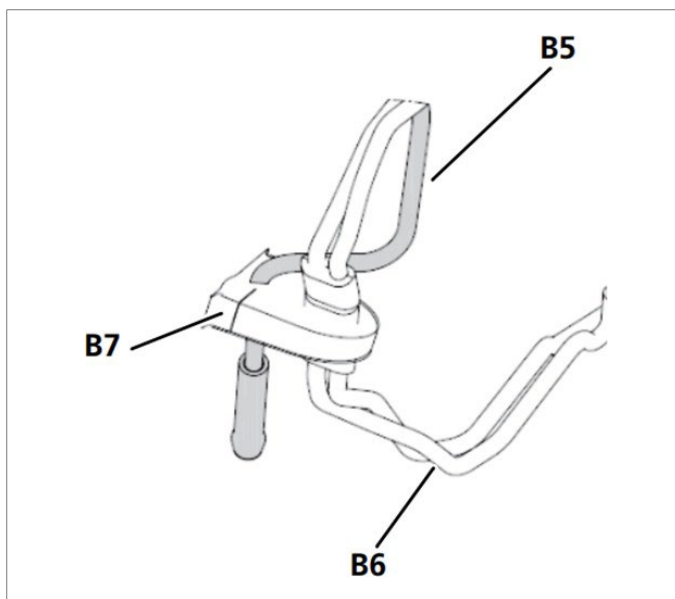

Fig. 915 Glow plug cable, grommet, and fuel pipe
5. Route glow plug cable (B6) as shown in Fig. 915 with a slight bend and slide grommet (B7) onto fuel pipe (B5).